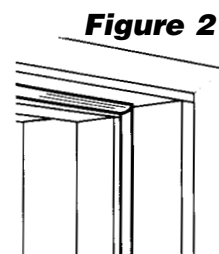

Figure 2
4. Do not overlap gasket where header and sides meet, (See Figure 2)